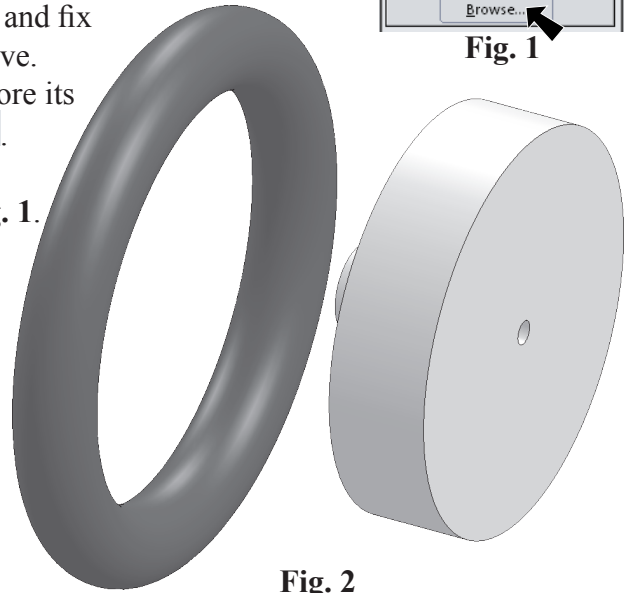

Fig. 2
Step 8. Place Tire as positioned in **Fig. 2**.
Step 9. Click **Zoom to Fit**  (F) on the View toolbar.